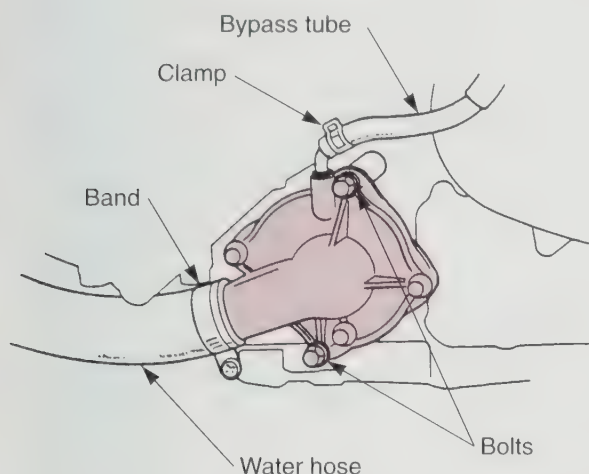

Figure 11-16. Components to be disconnected when removing a water pump. (Honda Motor Co., Ltd.)
1. Drain the engine oil and coolant. Remove the water pump mounting bolts. Disconnect the water hoses and bypass tube, then remove the water pump. See **Figure 11-16**.